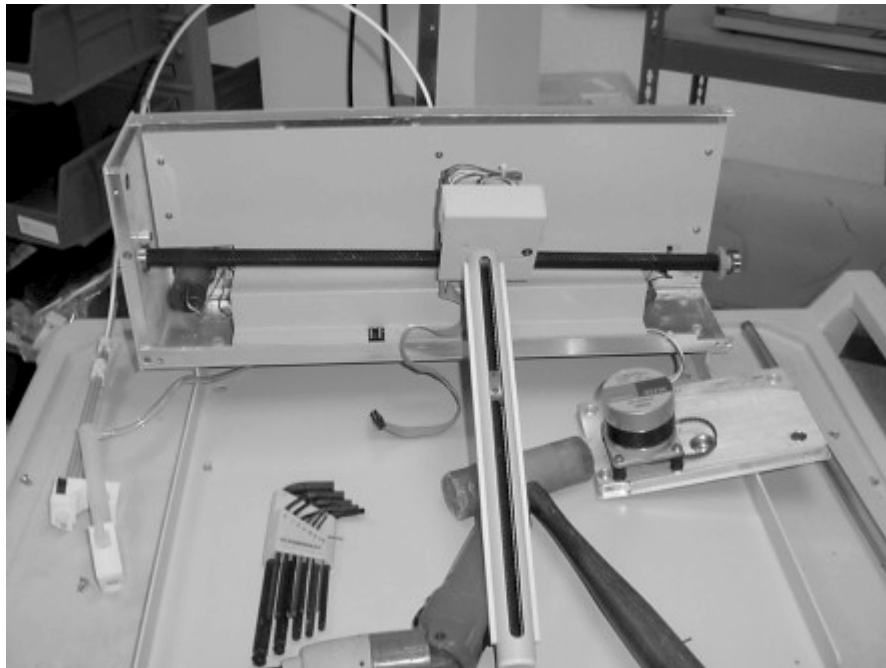

Figure 1-12.
10. Now loosen Setscrew on left panel, so you can remove the guide shaft (Figure 1-12).